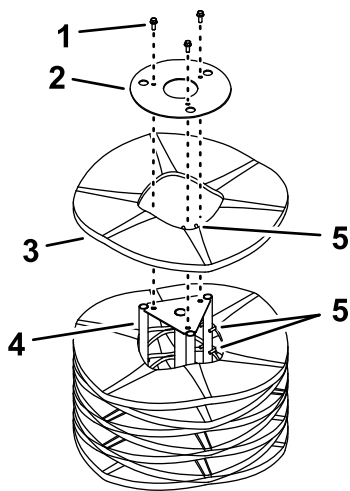

Figure 38
5. Stand the broom core assembly on end so that the end retainer plate faces upward (Figure 38).
6. Remove and retain the hardware from the end-retainer plate (Figure 38).
8. Install the new segment(s) by staggering the metal ring alignment fingers as shown in Figure 38.